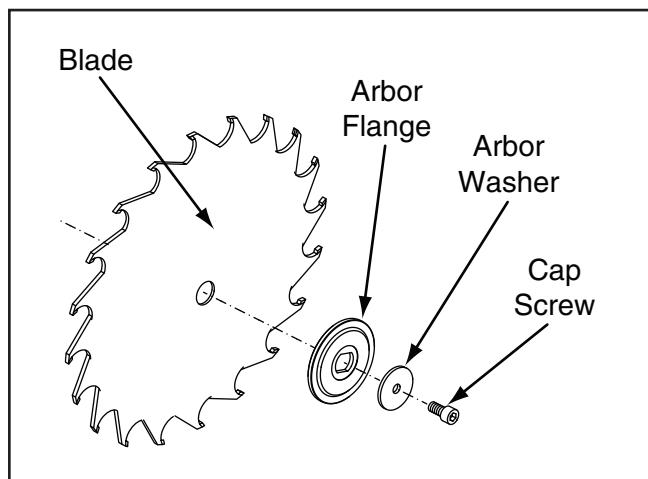

Figure 22. Blade installation sequence.
6. Install the new blade, arbor flange, arbor washer, and arbor screw in the reverse order from which they were removed. Use the arbor lock button to secure the arbor while tightening the arbor screw (**Figure 22**).